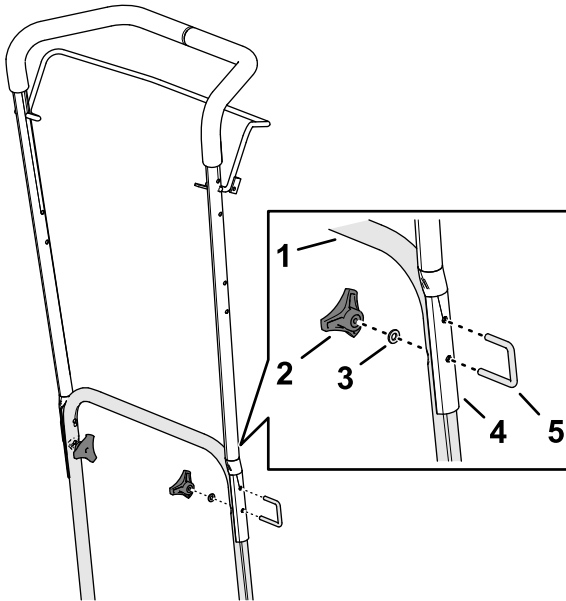

Figure 8
1. Align the holes on the upper handlebar with the holes in the lower handlebar (Figure 8).